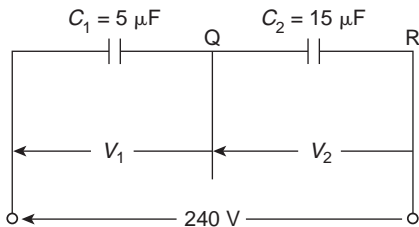

Figure 8.11
- (a) $2\mu\text{F}$ in parallel with $3\mu\text{F}$ gives an equivalent capacitance of $2\mu\text{F} + 3\mu\text{F} = 5\mu\text{F}$. The circuit is now as shown in Fig. 8.11.
- (b) The charge on each of the capacitors shown in Fig. 8.11 will be the same since they are connected in series. Let this charge be Q coulombs.